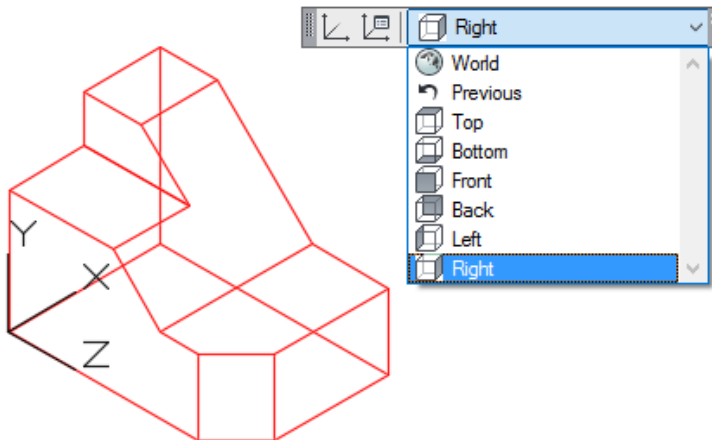

Figure Step 9A
Step 9 Set the current UCS location to Right and the UCS icon will move onto the right side of the model. Note that the XY plane is now located on the right side plane of the wireframe model. (Figure Step 9A and 9B)